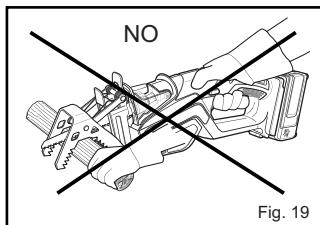

Fig. 19
- Do not hold the workpiece by hand but use suitable clamps to secure it if required (Fig. 19).
- Switch the product off, let it come to a complete stop and remove the battery pack if the saw blade (13) is stuck in the workpiece.